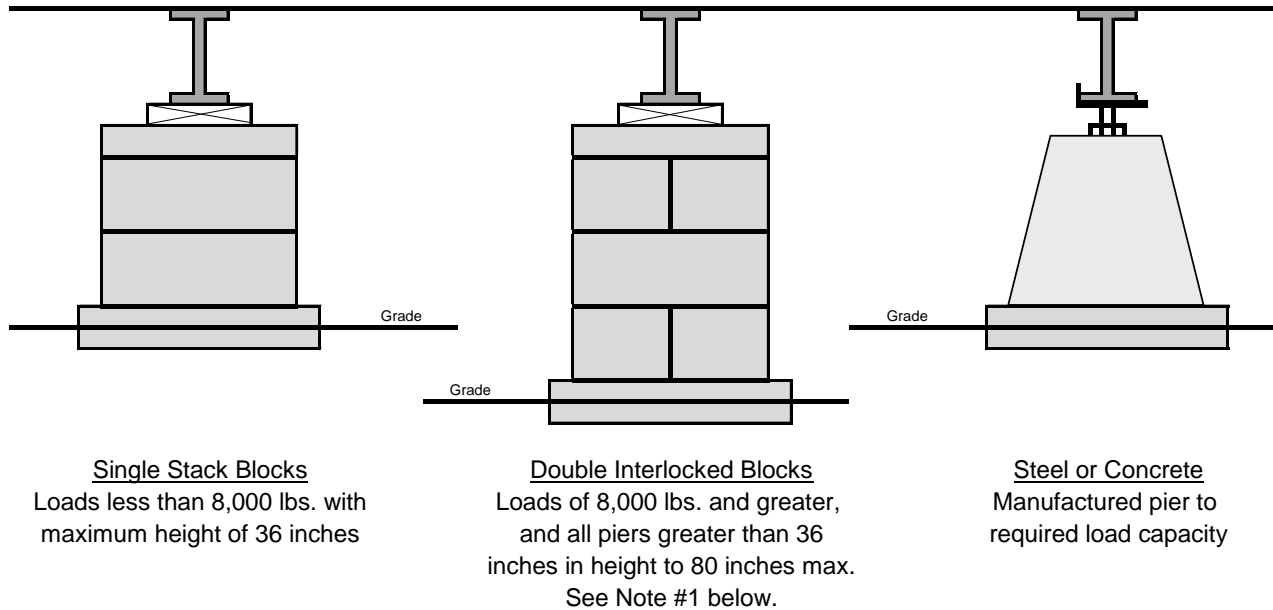

Figure 5 - Pier Blocking Designs
Cracked, deformed or otherwise damaged blocks/piers will be rejected during the inspection process. See Figures 5 & 6 on Page 9 for blocking/support examples.
- 1) See Figures 5 and 6 on Page 9 for blocking/pier/support examples.
- 6) Piers greater than 36 inches in height shall be of the Double Interlocked design and all open cells shall have at least one #4 vertical steel reinforcement and shall be filled with concrete grout. Vertical steel reinforcement shall have hooks poured into the footing beneath. See Figures 5 and 6 on Page 9.